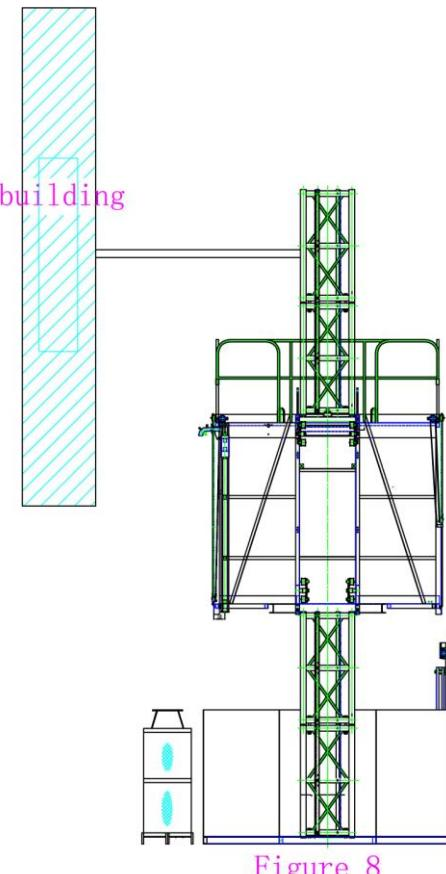

Figure 8
4.4.19. Install the base level enclosure well.(see figure 8)